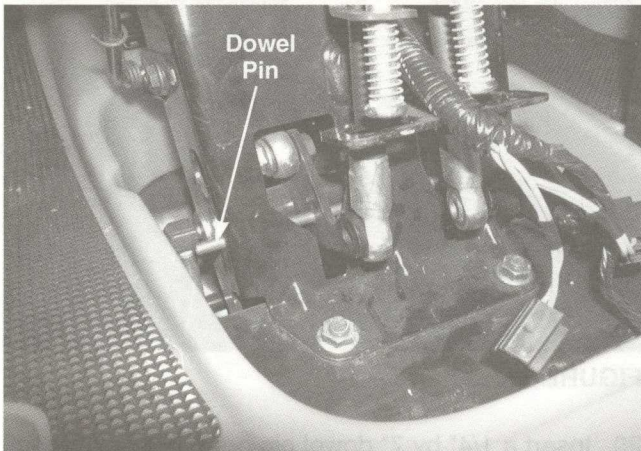

FIGURE 13.
21. Raise the front of the foot board body high enough to insert a 1/4" by 7" dowel pin or equivalent through the lower alignment hole of the support tower, through the lower left and right bellcrank assemblies, and out the opposite side of the support tower. See figure 13.